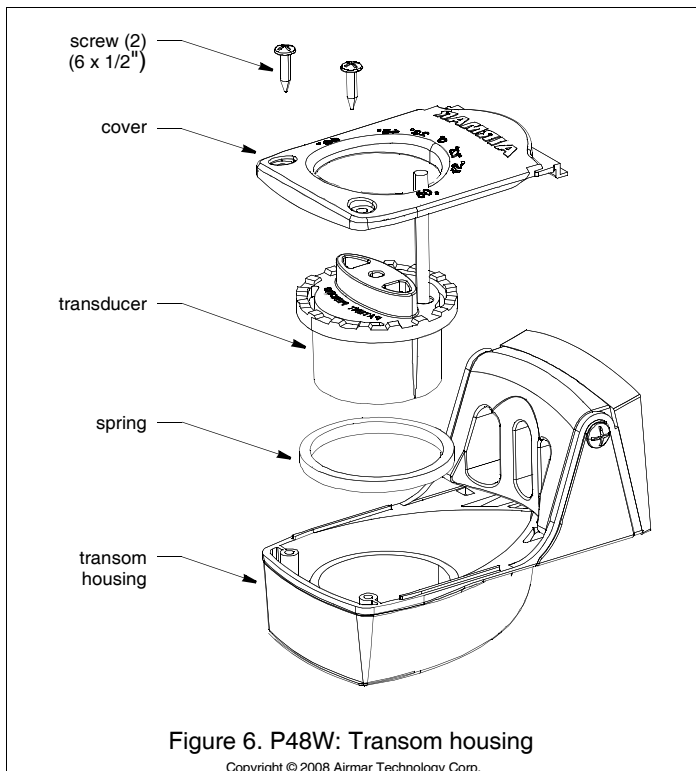

Figure 6. P48W: Transom housing
1. Remove the transducer from the transom housing by first removing the two screws and the cover (see Figure 6). Lift out the transducer and the spring.
1. Slide the cover over the cable onto the transducer (see Figure 6).